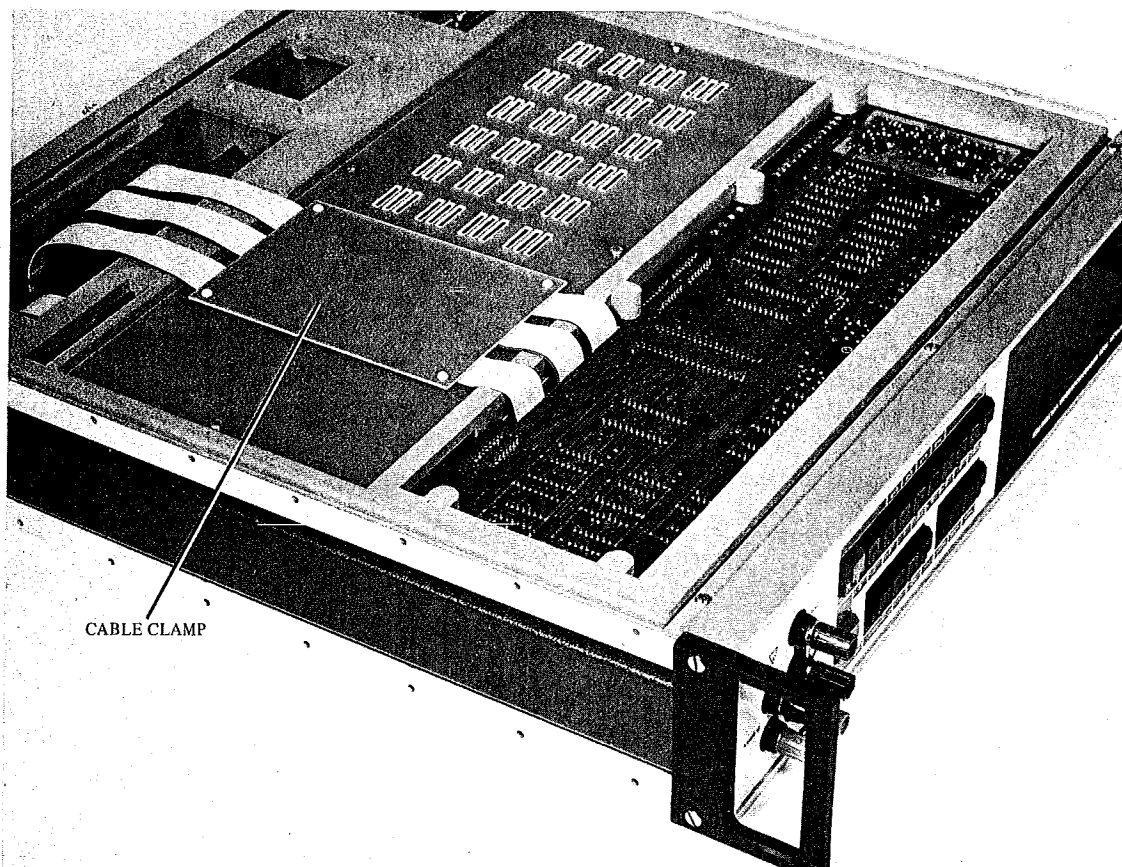

Fig. 7 Fitting the Cable Clamp
18. Fit the cable clamp to underside of the instrument using the push-in securing buttons (Fig. 7).